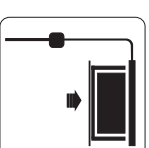

Figure 21
3. Turn the switch to position "—" to lower the screen; it will go up into the metal casing. When it is all the way up, it will stop automatically. (Figure 21).